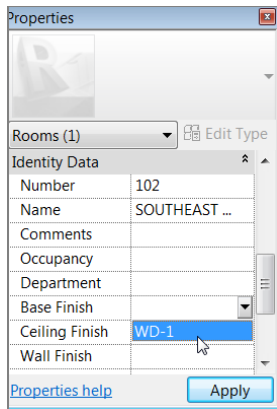

FIGURE 15.9: When a field has been added to the database, it's available for the rest of the rooms.
10. In the Properties dialog, click into the Base Finish field. Click the arrow for the pull-down menu, and select WD-1, as shown in Figure 15.9.